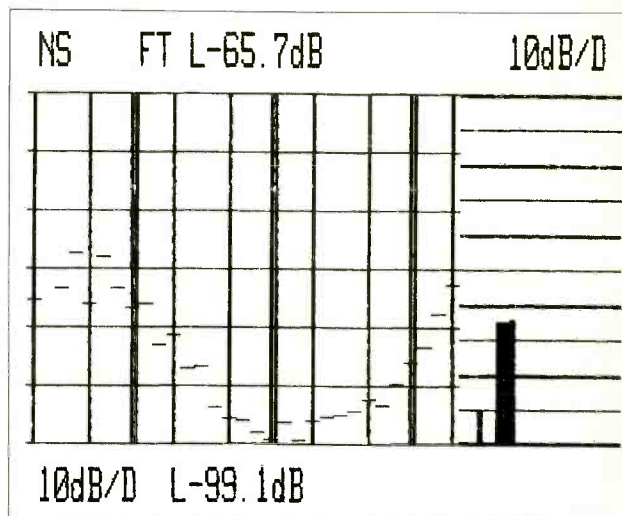

Fig. 4: Fostex A-8: Unweighted plot of noise shows high level of low-frequency noise, which is not helped by Dolby-C noise reduction system.
Fig. 4: Sony PCM-F1: Slight differences in S/N were observed when switching from the EIAJ (14 bit) standard PCM format [where we measured 88.1 dB, CCIR/ARM weighted (A)] to the standard 16-bit format also available on the unit, where we measured 89.9 dB (B).
On the matter of signal-to-noise, the instruction manual advises that the built-in Dolby-C facility be kept on at all times unless another type of noise-reduction system is externally connected. The specs also quote a figure of 72 dB for S/N "weighted" (the actual weighting curve used is not stated), as against a figure of only 60 dB S/N unweighted. Our tests show that with the Dolby-C on, and using CCIR/ARM weighting in making the S/N measurement, you get an impressive S/N of 77.5 dB. Remove the Dolby, and the reading drops to 61.3 dB. In our view, that discrepancy seems "suspicious" inasmuch as Dolby-C should add about 20 dB to the S/N figure. The reason for the discrepancy is that the machine yields a significant amount of low-frequency noise, which Dolby-C doesn't do much about. CCIR/ARM weighting tends to obscure this effect, however. To confirm our suspicion, we measured the noise with Dolby-C on again, but without any weighting curve. The results are shown in Fig. 4, with an overall reading of 65.7 dB—but notice, in the spectrum analysis of the noise (in third-octave increments) how it rises at low frequencies, peaking in the power-supply frequency regions of 50 to 60 Hz.